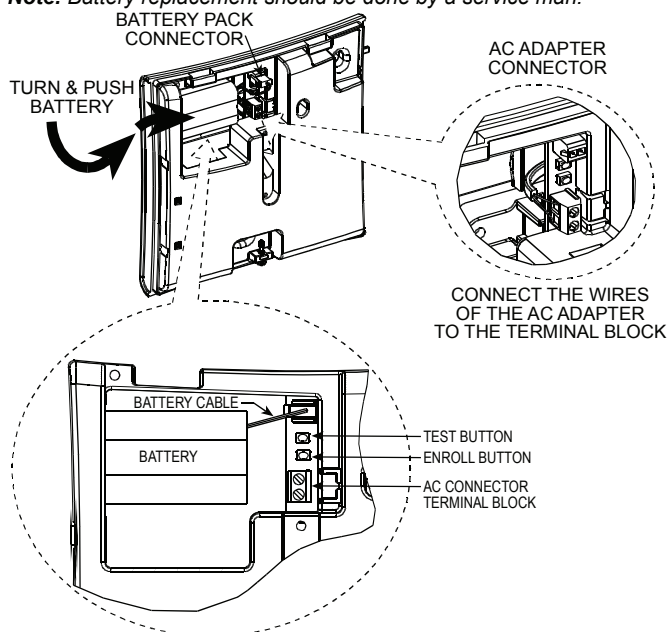

Figure 2 - Battery Pack Insertion
- B. Press the repeater's enroll button and release it (see Figure 2); the orange LED blinks for 10 sec.